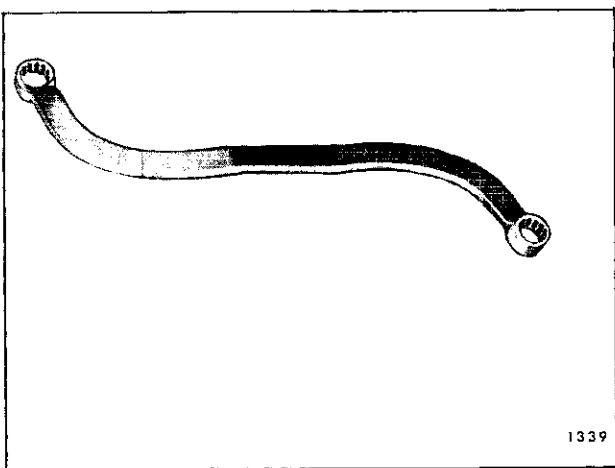

Fig. 6-55—Front Door Hinge Tool J-21550 (1/2" Box) - "F, X & Z" Styles
- On "F, X & Z" body styles, use tool J 21550 - 1/2" wrench (Fig. 6-55).